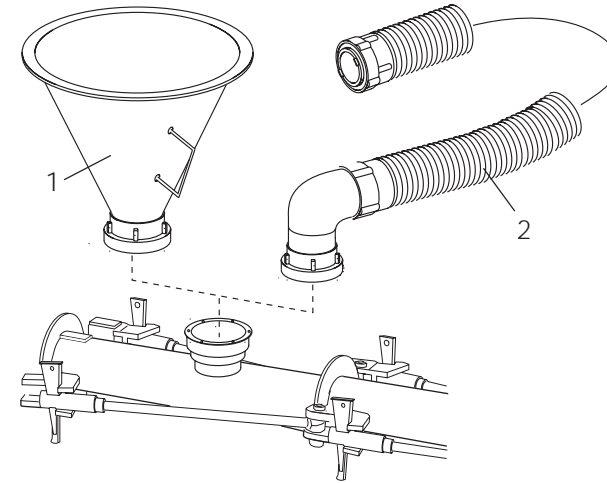

Fig. 10: Extruder with filling funnel or 2" hose with C couplings.
- using a funnel (see fig. 10, 1) directly from a bucket or,
- via a 2" hose with C couplings (fig. 10, 2) from a container